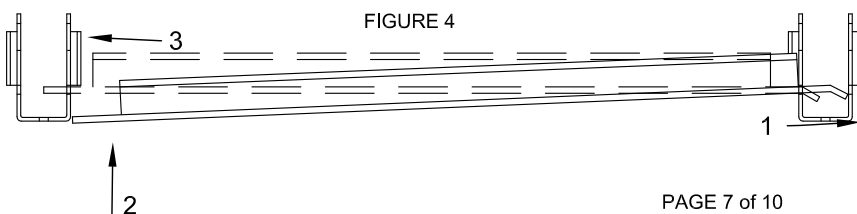

FIGURE 4
4. TO INSTALL THE PBSA (3 PIECE PARTICLEBOARD SHELF) YOU NEED TO WORK FROM RIGHT TO LEFT. FIRST BRING THE J-CHANNEL (PBSS) OUT AT A SLIGHT ANGLE, (FIGURE 4, STEP#1) AND PUSH IT ALL THE WAY IN TO THE UPRIGHT.
5. PUSH THE J-CHANNEL (PBSS) IN UNTIL YOU GET TO THE SLOTS ON THE OTHER UPRIGHT, (FIGURE 4, STEP#2)
6. NOW BRING THE J-CHANNEL (PBSS) BACK TO YOUR LEFT UNTIL IT SEATS IN THE UPRIGHT SLOT (FIGURE 4, STEP#3)